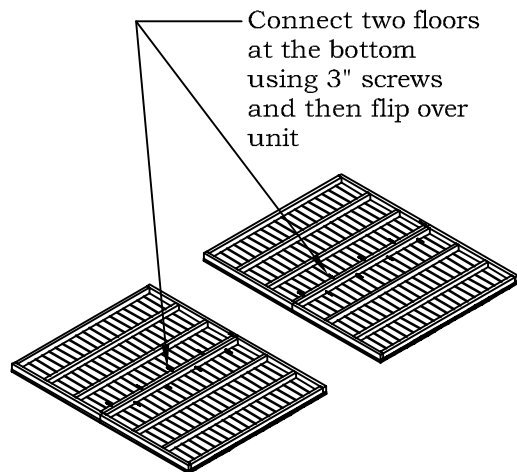

FIGURE S3A
- You need to connect the two floor panels together as shown in Figure S3A from the bottom. You will then flip the floor assembly over so the decking is facing up again. Do not drop the unit while flipping it over. Now connect all 4 panels together as shown in Figure S4.